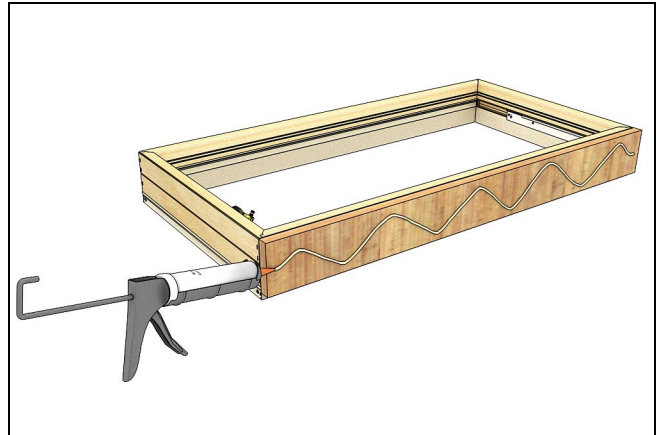

Figure 24
3. Apply adhesive in a wobble pattern on the LVL or space mull. See Figure 24.